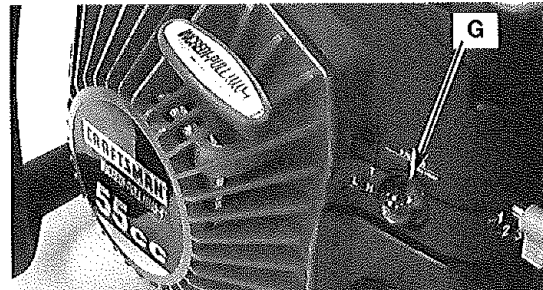

Fig. 5
2. Fully press and release the primer bulb (G) 10 times, slowly. Some amount of fuel should be visible in the primer bulb (Fig. 5). If you can't see fuel in the bulb, press and release the bulb as many times as it takes before you can see fuel in it.